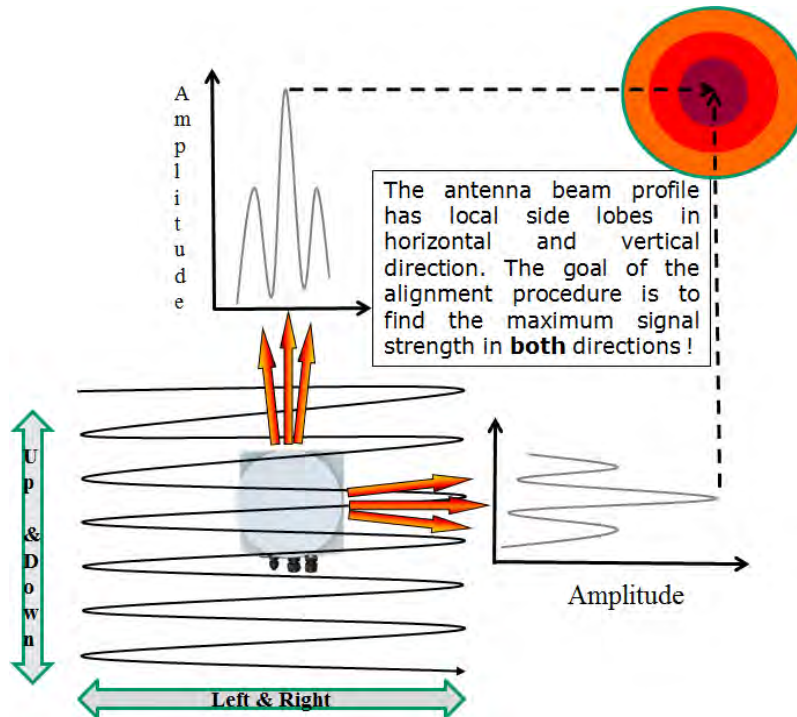
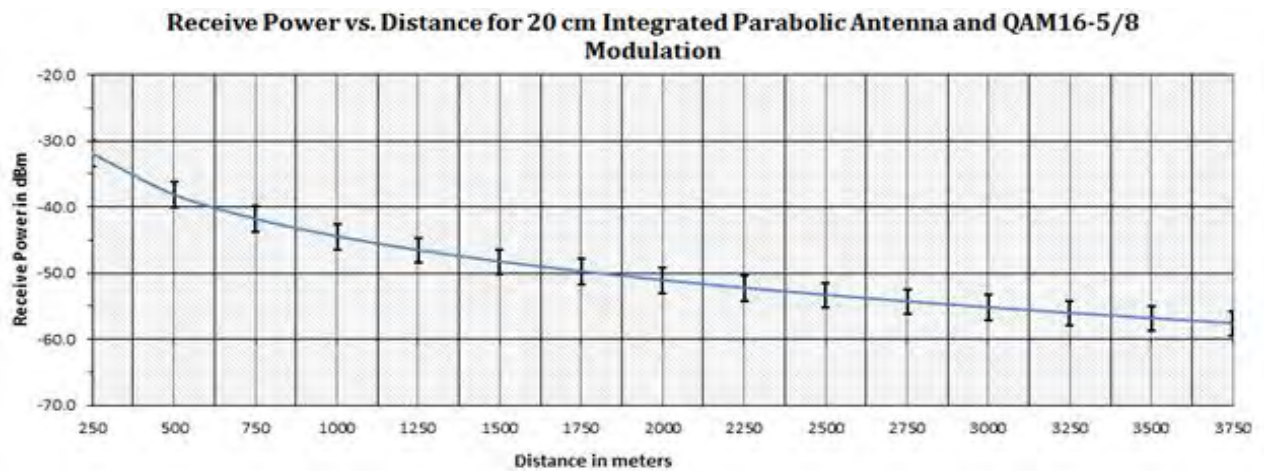
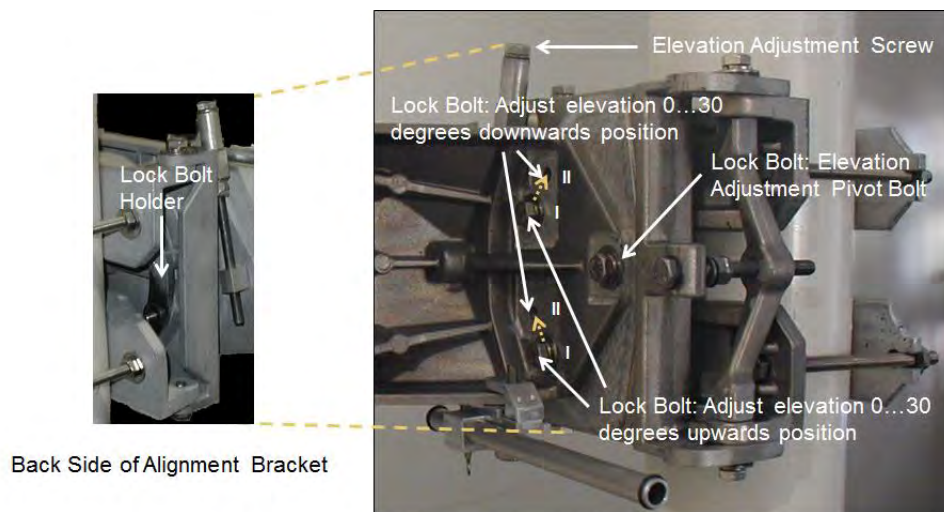
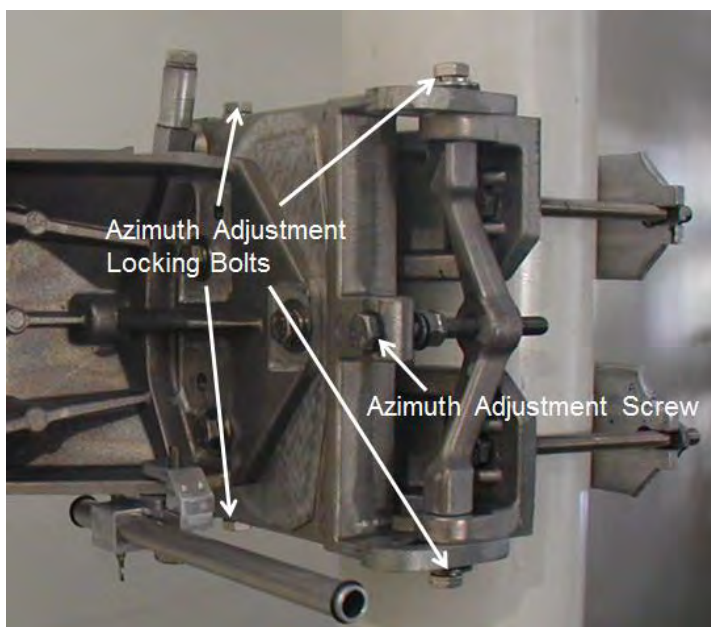

Figure 5-7: Simple illustration of the alignment process
Figure 5-8: Typical AireLink 80-SX RSSI vs. Distance Charts for standard distance setting.
Figure 5-14: Elevation Adjustment
Figure 5-15: Azimuth Adjustment
8. The alignment tool is meant to provide a rough alignment towards to opposite antenna location. It is however not an exact tool for finding the best alignment of the antennas. More precise alignment is done via the digital voltmeter or the *LightPointe BLE Tool* that measures the receive signal strength/RSSI voltage. Within several dB of accuracy the RSSI voltage reading in Volt corresponds to the RF RSSI signal reading in dBm. In other words, and with the correct polarity chosen, a system that is not aligned at all will show a negative voltage reading close to -0.80 Volt and this translates into -80 dBm. This signal level is far too low to establish a data connection. During the alignment process the **voltage reading will increase, meaning "less negative" voltages or higher RF RSSI reading in dBm will be recorded. The goal is to align the system at its best possible and highest RSSI reading (e.g. increase the voltage reading from -0.8 V to -0.5 V).** LightPointe provides a distance vs. voltage reading chart for the AireLink 80 system using either the integrated or the external antenna options (see Figure 5-8). When using the *Lightpointe BLE Tool*, the RSSI reading is given in dBm directly.
10. Ensure that the antennas are not aligned on a side-lobe. In particular when the system is installed over short distances the side-lobes can be easily seen. Rotate the antenna a few degrees to each side of the perceived alignment center and both side-lobes can be detected as "local RSSI voltage minima". The main lobe which is located right in the middle between the two side lobes will have a much higher voltage reading. Fig. 5-7 shows a simple illustration of the alignment process and the location of the antenna side lobes in relation to the main lobe.
11. When aligning the system it is important to take a look at the Receive Signal Strength chart shown in Fig. 5-8. The RSSI chart shows the RSSI signal voltage as a function of the deployment distance in clear weather conditions. Therefore, and when the system is installed under non-clear weather conditions, the values can be lower during the actual installation process. 80 GHz systems are also impacted by oxygen absorption (see Fig. 2-2) and these values can also vary several dB between sea level installations and installations at higher altitudes. The RSSI values are different for the low band and the high band radio and the values vary slightly and within a few percent from one radio system to another due to manufacturing tolerances. However, the chart provides a very good indication of expected RSSI values as a function of deployment distance. The overall goal of the alignment process is to align the system as close as possible to the RSSI value provided in the RSSI chart.
12. After maximizing the RSSI signal levels on both sides of the link, do not forget tightening the Elevation and Azimuth Locking Bolts (see Fig. 5-7 and Fig. 5-8).
To adjust the elevation settings of the antenna, see Fig. 5-7 and perform the following steps:
3. In case the elevation must be adjusted upwards, ensure that the two Elevation Locking Bolts marked I/II in Fig. 5-14 are both in position I. If not, keep the Pivot Bolt in place and unscrew these two locking bolts. Support the antenna when removing the last/second bolt to avoid the antenna sliding down. On the back of the alignment bracket is the lock bolt holder (see Fig. 5-7) and it needs to be put in place again before re-inserting the bolts in position I. Do not completely tighten the bolts to allow the antenna to move when turning the Elevation Adjustment Screw.
1. To adjust the azimuth settings of the antenna see Fig. 5-15 and perform the following steps:
9. After maximizing the RSSI signal levels on both sides of the link, do not forget tightening the Elevation and Azimuth Locking Bolts (see Fig. 5-14 and Fig. 5-15).
3. Look through the Alignment Sight Tool and turn the Elevation and Azimuth Adjustment Screws (see Figures 5-14 and 5-15) until the opposite antenna location shows in the middle of the Alignment Sight Tool. The inside of the tool is reflective and this helps to center the remote antenna site location. In case the opposite side is too far away to be clearly seen, please use binoculars to find an easy recognizable landmark close to the opposite antenna side. Perform the same procedure at both sides.